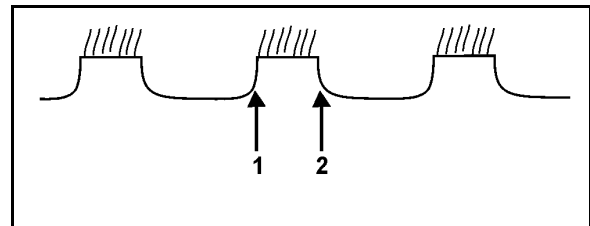

Fig. 44
- Adjust 1st disc row to right and check again (Fig. 44):